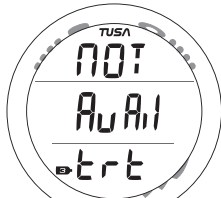

Fig. 6B - TRT NOT REPORTING
- If a TRT is not active and linked, the message NOT Avail (not available) will be displayed (Fig. 6B).